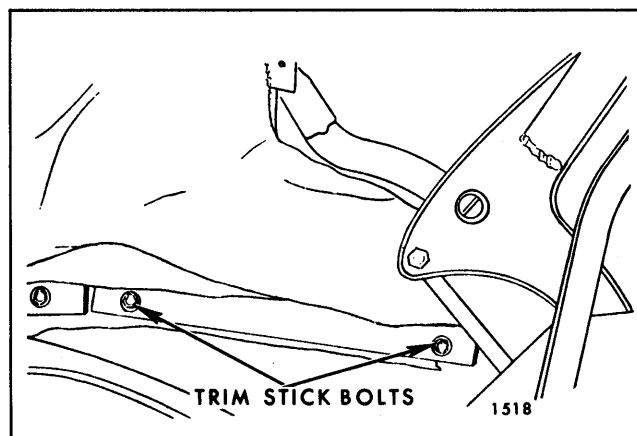

Fig. 13-5—Rear Quarter Trim Stick
17. At each rear quarter area remove attaching bolts securing rear quarter trim stick assembly to rear quarter inner panel (Fig. 13-5).